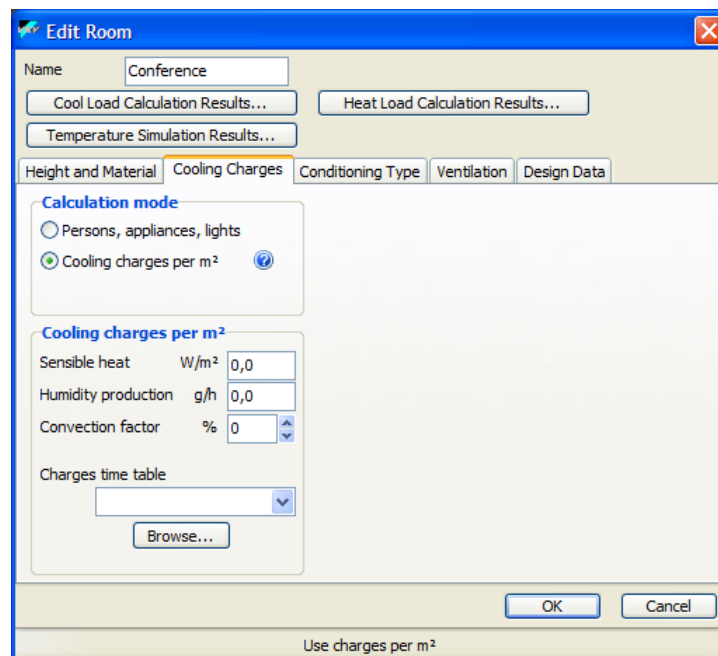

Figure 123: Defining explicit loads in a room for all heat sources at once
- Instead of entering explicit loads for each of the three heat sources, you can also enter these data for all heat sources at once, as shown in Figure 123. Note that it is important to understand the intended function of a room to enter realistic values. E.g. the heat sources in a restaurant, a theater or an office considerably differ.